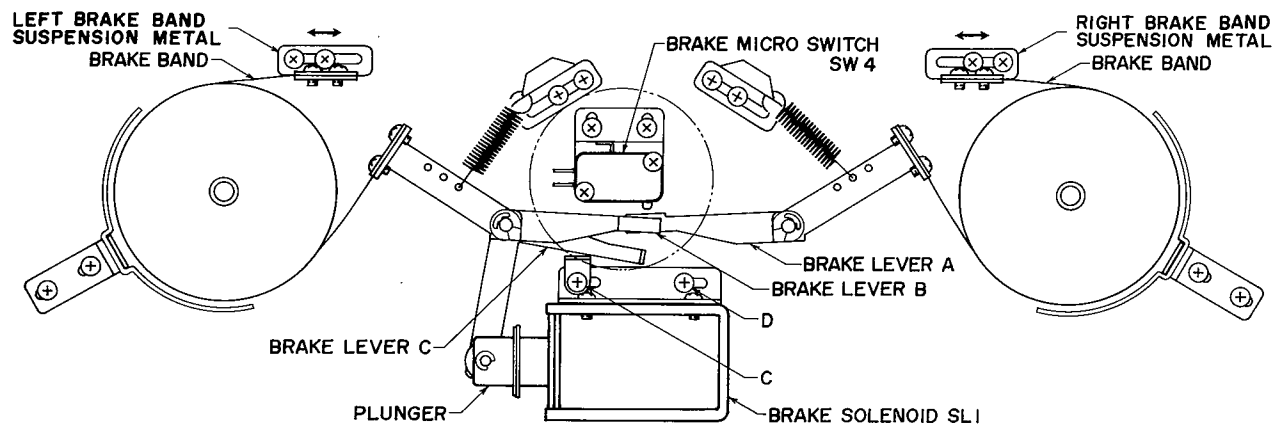
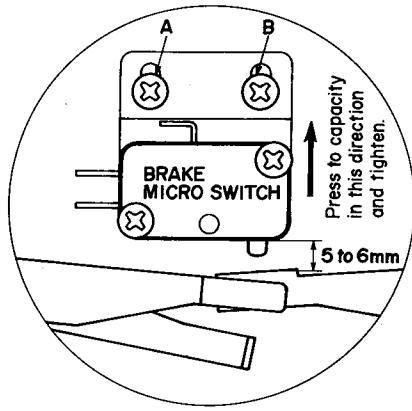

Fig. 3
Fig. 4
- 1) As indicated in Fig. 4, pull the brake micro switch above the mechanism frame and tighten screws A and B.
- 2) As in Fig. 3, move the right brake band suspension metal until a 5 – 6mm space between brake lever A and the body of the brake micro switch is attained. (Refer to Fig. 4.)
- 3) Move the left brake band support as indicated in Fig. 3 so that brake levers B and A can be simultaneously operated by brake lever C.